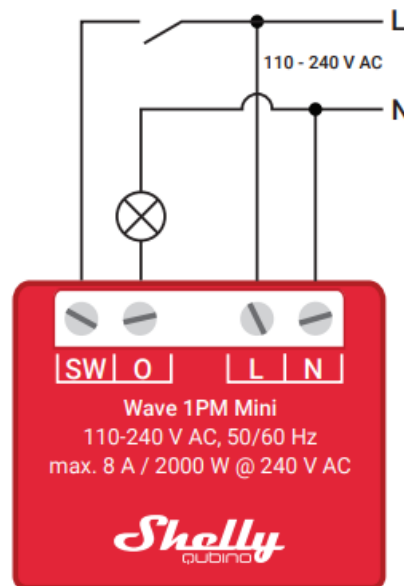

Fig.1/
2. Refer to the wiring schemes provided in the user guide (Fig. 1) for detailed installation instructions.
3. Connect the load to the O terminal of the Device and the Neutral wire as shown in Fig. 1.
- For the installation instructions, refer to the wiring schemes (Fig. 1) in this user guide.
- Connect the load to the O terminal of the Device and the Neutral wire, as shown in Fig. 1. Connect the Live wire to an L terminal of the Device. Connect the Neutral wire to a N terminal of the Device.